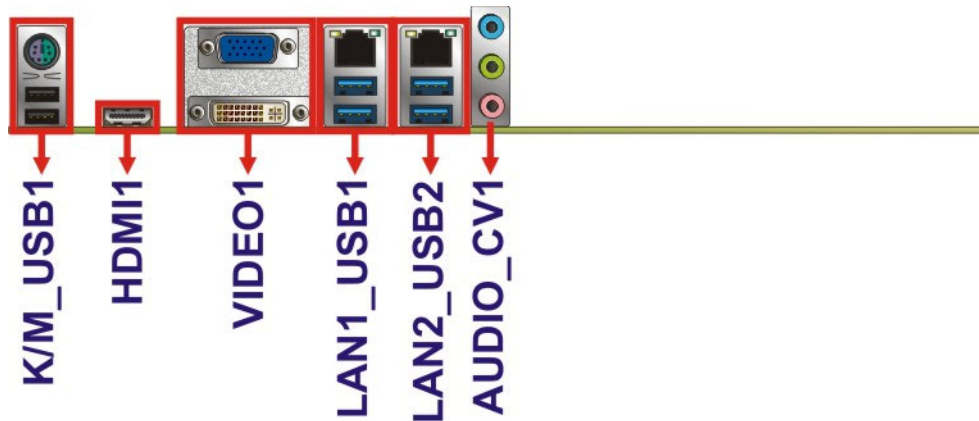

Figure 3-34: External Peripheral Interface Connector
CN Location:	See Figure 3-34
CN Location: See Figure 3-34
- CN Location:** See **Figure 3-34**